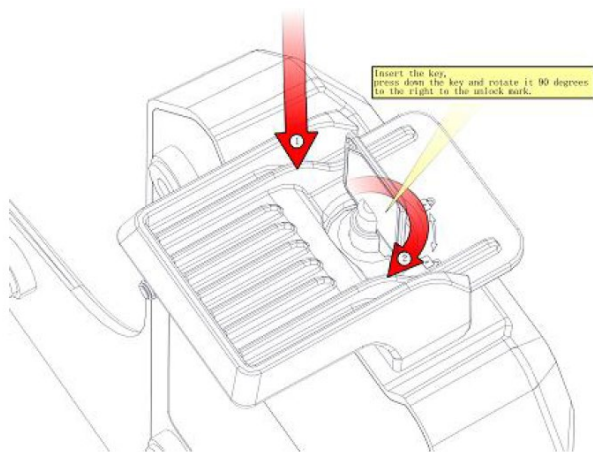

Fig. 4-1
1.Insert the key and turn it 90 degrees to the right to unlock the key to unlock the telescopic buckle as Fig 4-1 shown.